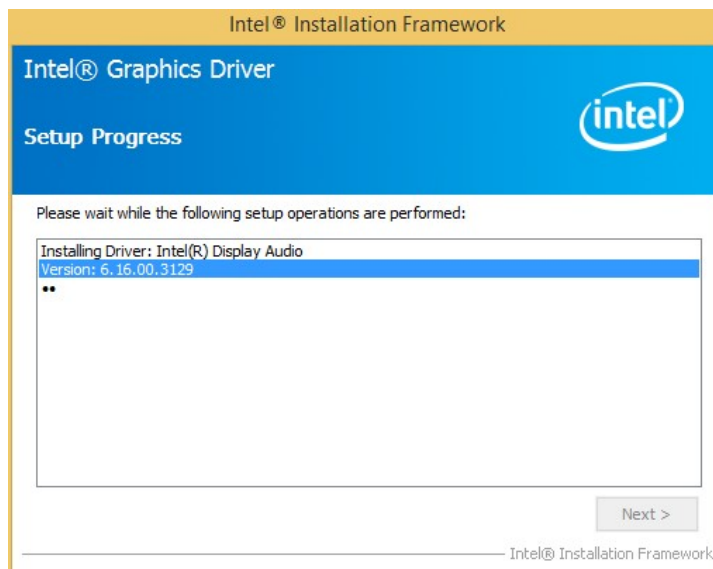

Figure 6-11: Graphics Driver Setup Operations
Step 9: **Setup Operations** are performed as shown in Figure 6-11.